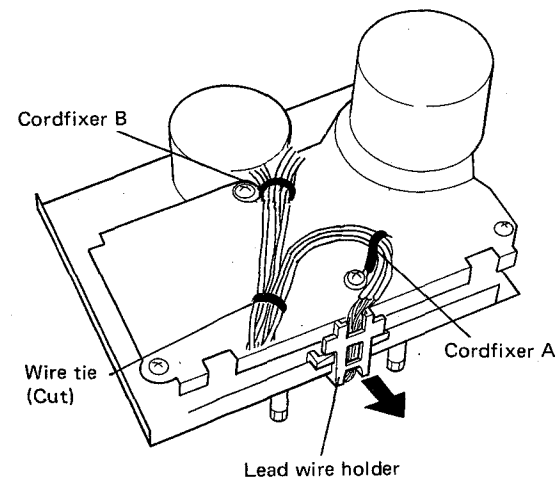

Fig. 3-4-1
2. Loosen the cordfixer A, and free the lead wires. (see Fig. 3-4-1)
3. Remove the lead wire holder. (see Fig. 3-4-1)